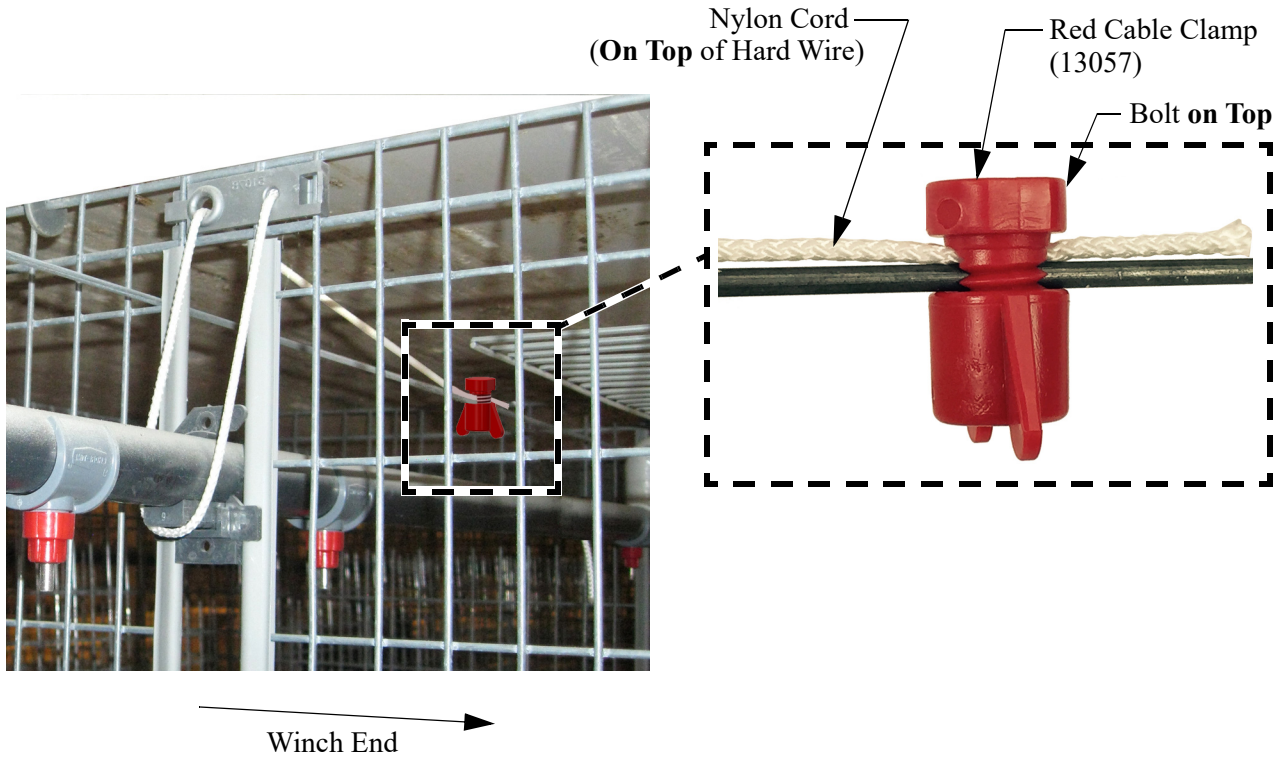

Figure 24.Fastening Nylon Cords
2. Pull the Nylon Cord towards the Winch end and fasten to the Hard Wire. (See **Figure 24.**)